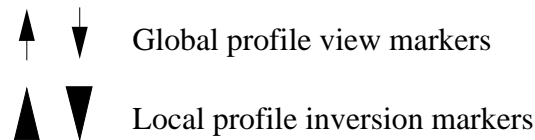

Figure 18: Profile markers
- **Set marker** Put a special mark on active profile. There are two kinds of the marks (see figure 18), and they can be two marks of any kind only. When you click first time, marker 1 appears. When you do it second time, marker 2. Third time you click marker 1 is removed from its location and set in the new place, and so on. Any marker is set in *the nearest profile sample* and appears on the both views (profile and map view). Thus the location of specific points can be easily found.
- **Set marker** Put a mark on the given line. Move the mouse to the place and click left button. A mark appears on the screen (for the type of mark see figure 18). Markers can be set on curves only and only at the data node. The program chooses the nearest node and places the mark. If decimation is large the actual mark position and the mouse position can differ considerably.